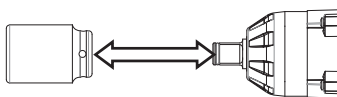

Fig. 3
1. Insert a socket into the anvil. (see Fig. 3)
3. Pull out the socket from the anvil directly. (see Fig. 3)